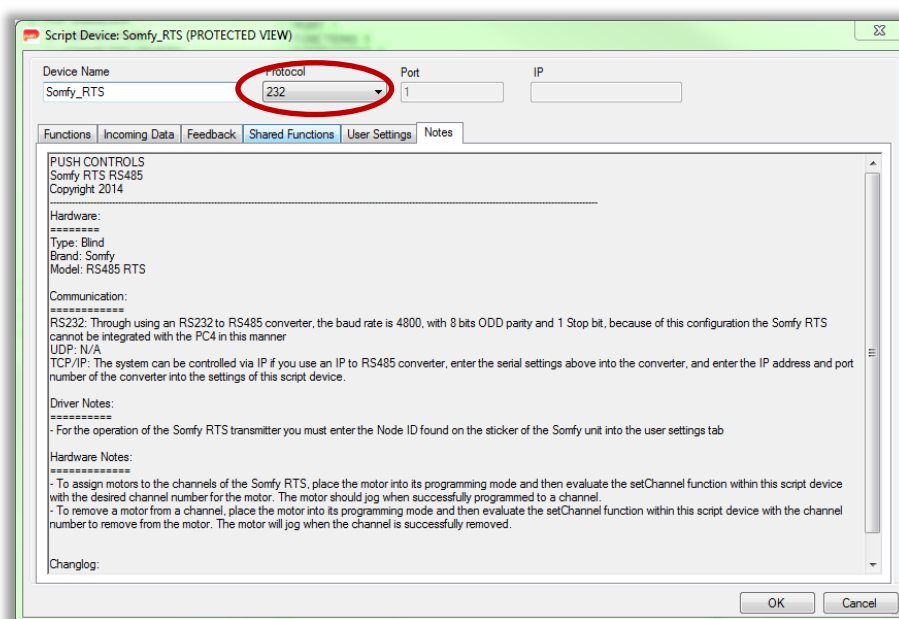

Figure 7 – Device Properties Window: Set the protocol to be used for communication with the device
- RS232 for control via a PC1/PC2. *Refer to Figure 7*